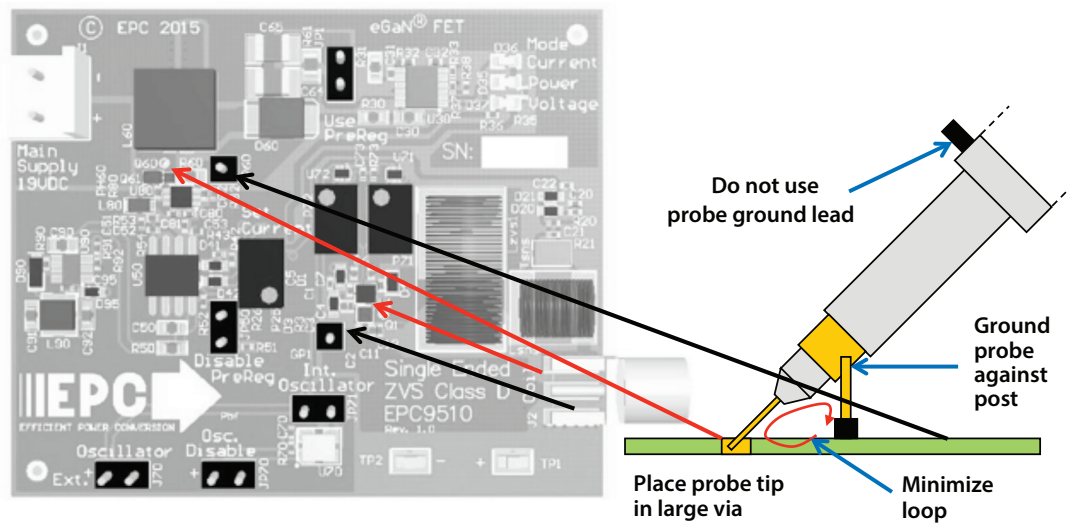

Figure 4: Proper Measurement of the Switch Nodes using the hole and ground post
3. Connect a LOW capacitance oscilloscope probe to the probe-hole of the half-bridge to be set and lean against the ground post as shown in figure 4.
1. When measuring the high frequency content switch-node (Source Coil Voltage), care must be taken to avoid long ground leads. An oscilloscope probe connection (preferred method) has been built into the board to simplify the measurement of the Source Coil Voltage (shown in figure 4).